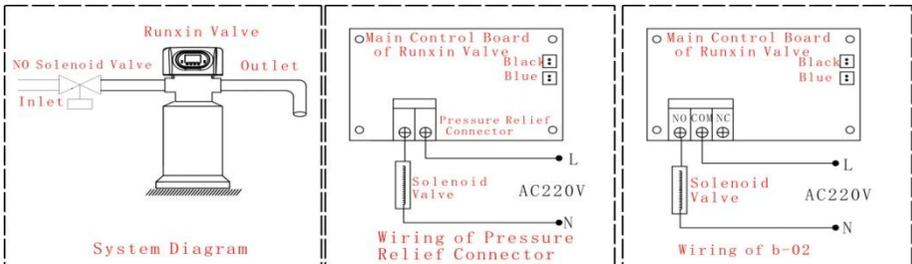

Figure 3-3
**Instruction:** When inlet pressure exceeds 0.6MPa, install a solenoid valve on inlet. Control mode is b-02. Pressure relieved when valve switching, the wiring refers to Figure 3-3.